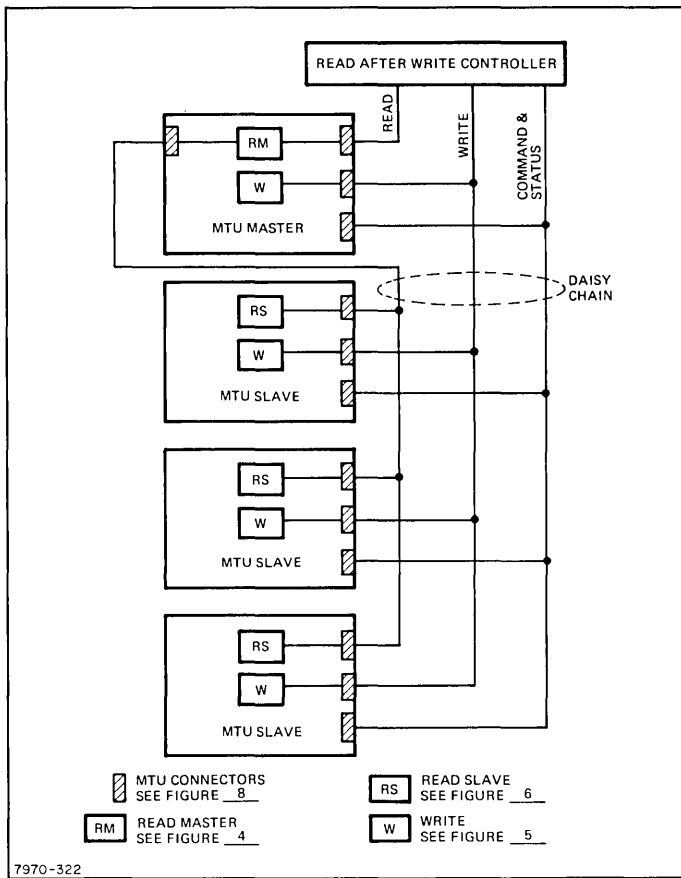
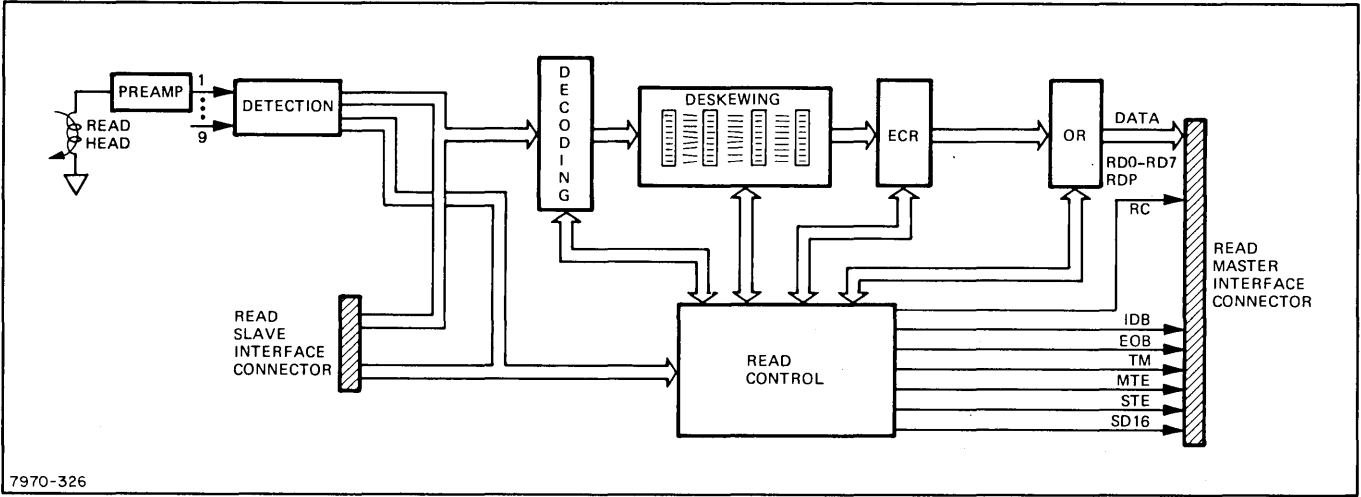

Figure 1. Read-After-Write 1600 CPI Phase-Encode Configuration
Figure 4. Master MTU 1600 CPI Read Data Electronics
The HP Model 7970E Magnetic Tape Unit features 1600 CPI phase-encoded (PE) data capability at speed ranges of 10 to 45 ips. The 7970E is available as a master unit, as a slave unit, or in master/slave-unit combinations using the inherent parallel-connection (daisy-chain) capability. (See figures 1 thru 3.) The master unit contains the following phase-encoded read data functions (figure 4):
a. READ-AFTER-WRITE (9-Track PE Read-After-Write). Both master and slave units contain the same write and command-and-status electronics. (See figure 1.) All formatting and parity generation of the write data must be accomplished in the controller. (Optional write formatting is available.) Complete PE read data electronics is contained only in the master unit. Slave unit read capability is accomplished through the master read electronics for multi-unit parallel-connection operations.
Preamplification and detection are provided in both the master and slave units. The PE read data electronics is provided only in the master unit. (See figure 4.) The Read Control monitors and directs the functions of data decoding, deskewing, error correction (ECR), and output buffering (OR). The PE read data electronics provides nine data lines, a Read Clock per PE tape byte, and block status signals to the controller interface.